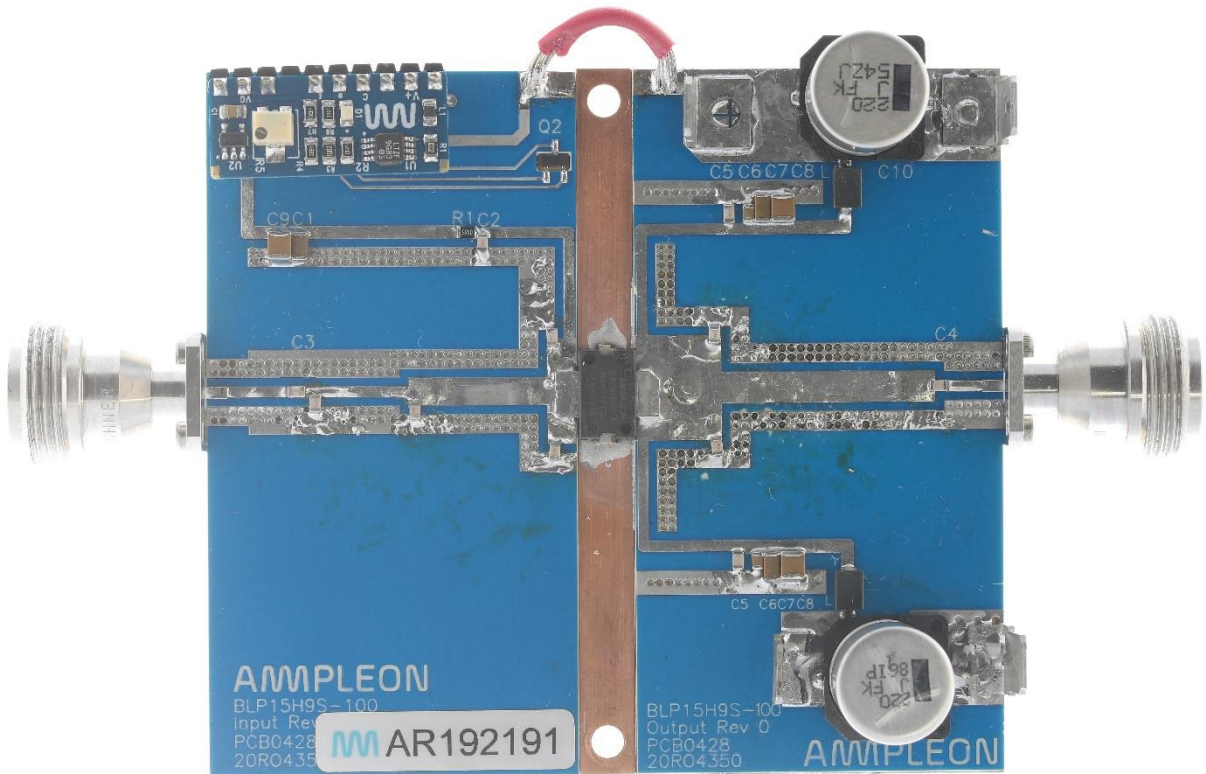

Figure 8. Demo board top view
- Figure 8. Demo board top view 13